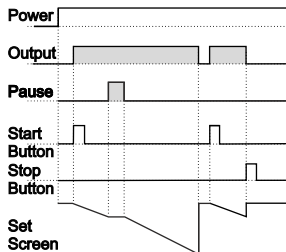

Figure 1.1
1.1.1 If downcount  $\overline{dEct}$ =1 and  $\overline{outF}$  is  $\overline{b-n}$  the control diagram is shown in Figure 1.1